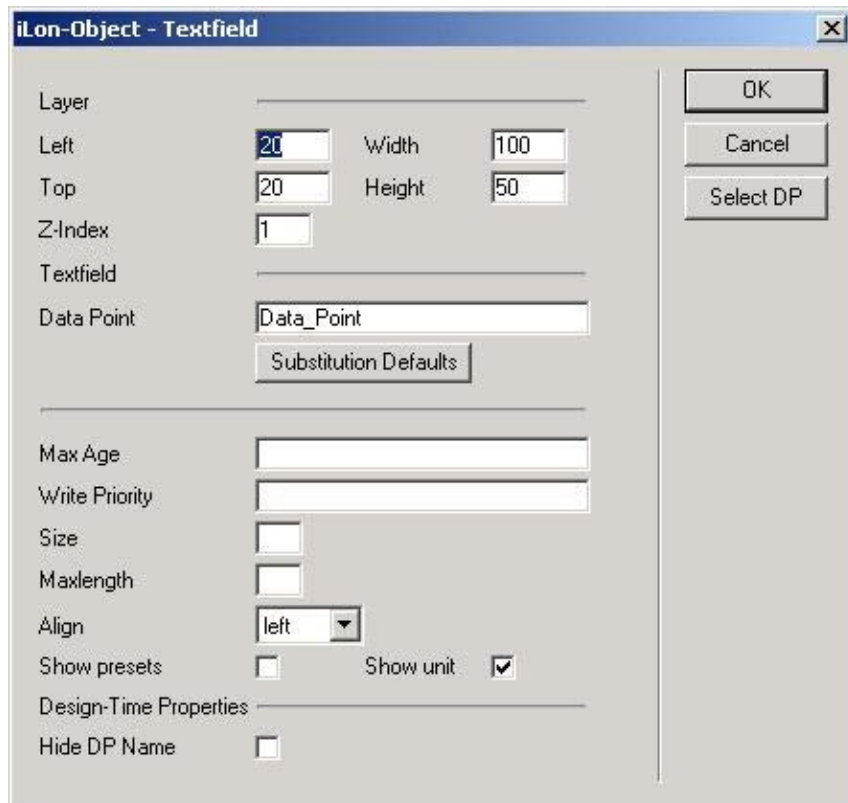

Figure 13.38 Textfield Dialog
1. Open a draft of a Web page, click the *i.LON* button, and then select **Textfield**. An icon is inserted on the Web page where the text field will be displayed, and the dialog shown in Figure 13.38 opens.